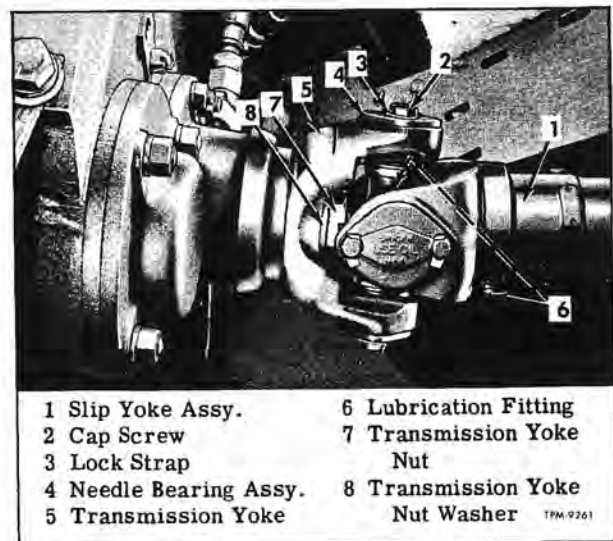

Figure 4—Propeller Shaft Installation at Transmission (SDM and TDM Models)
4. On SDM and TDM refer to "Universal Joint Disassembly" for journal disassembly at transmission end (fig. 4). Refer to TRANSMISSION (SEC. 17) for yoke removal.
"Universal Joint Assembly" and assemble slip joint to yoke (fig. 4).